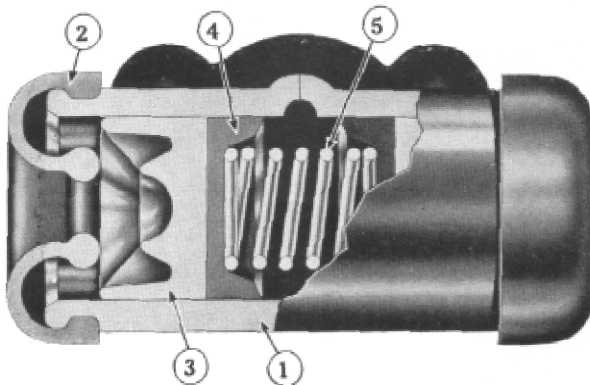

Figure 3
The wheel cylinder is the unit which changes the applied hydraulic pressure into mechanical force. The wheel cylinder, Figure 3, is composed of casting (1), boots (2), opposed pistons (3), opposed cups (4), and cup return spring (5). At the uppermost position and between the piston cups is a bleeder connection used to expel air from the system.
To disassemble wheel cylinder (Figure 3), remove rubber boots (2). Pistons (3), cups (4), and spring (5) may then be removed for inspection. Cylinder walls may also be checked
Hudson Hydraulic fluid and reassemble as shown in Figure 3.